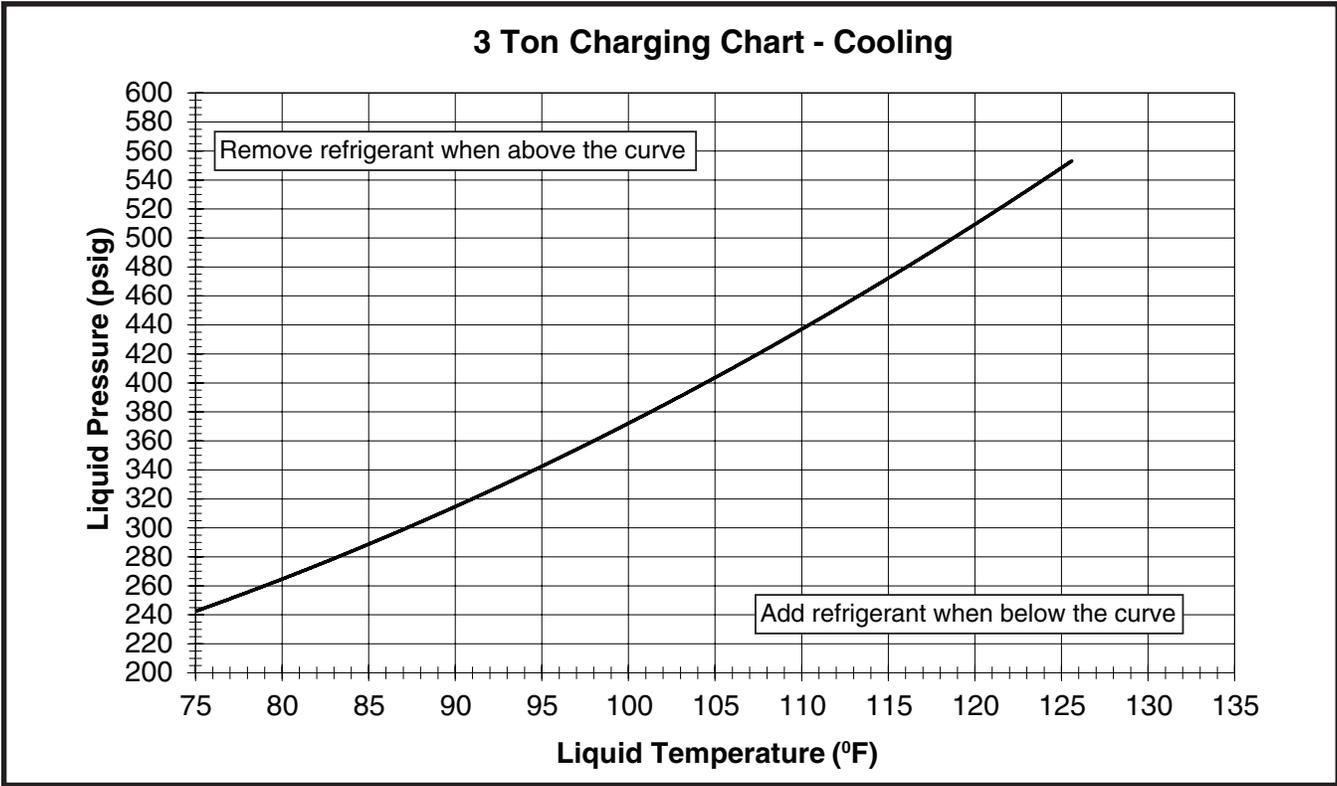
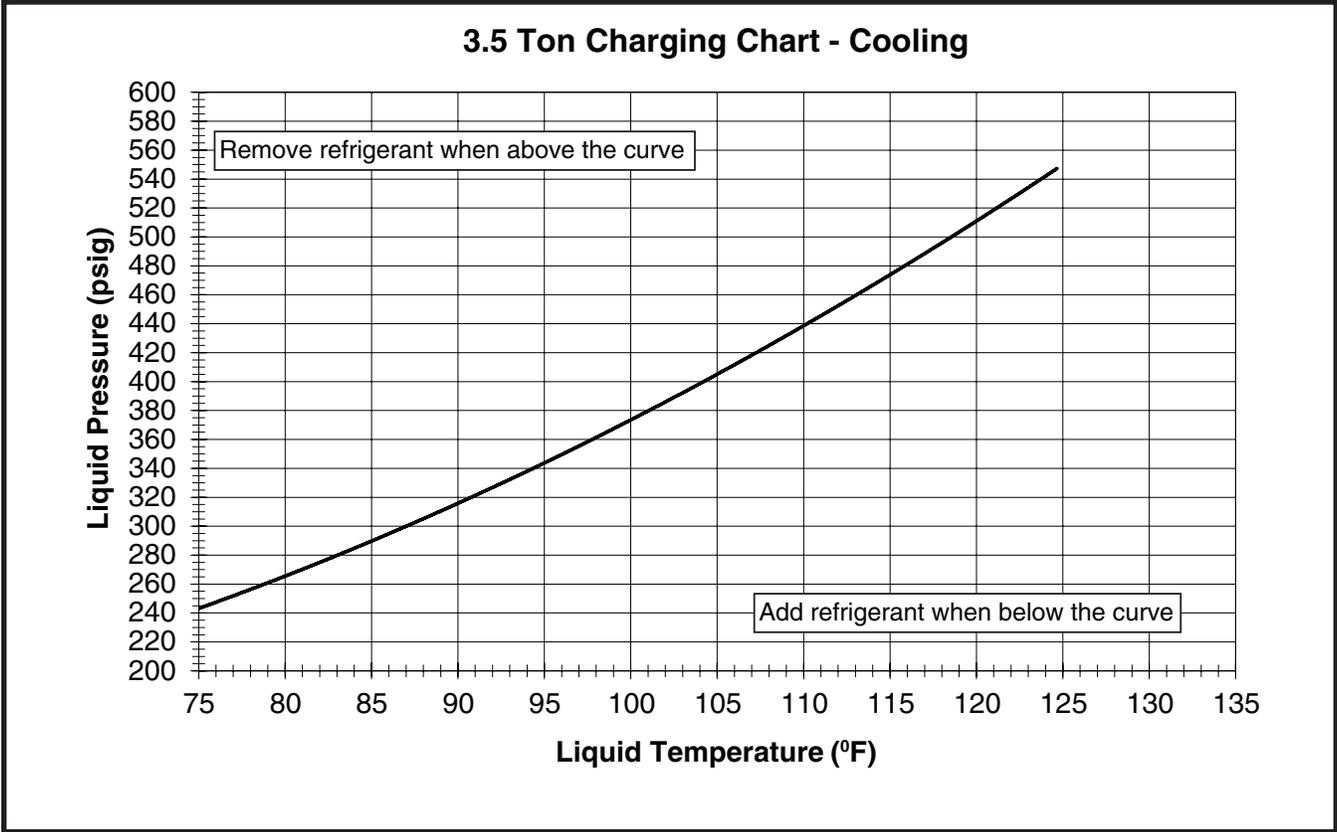
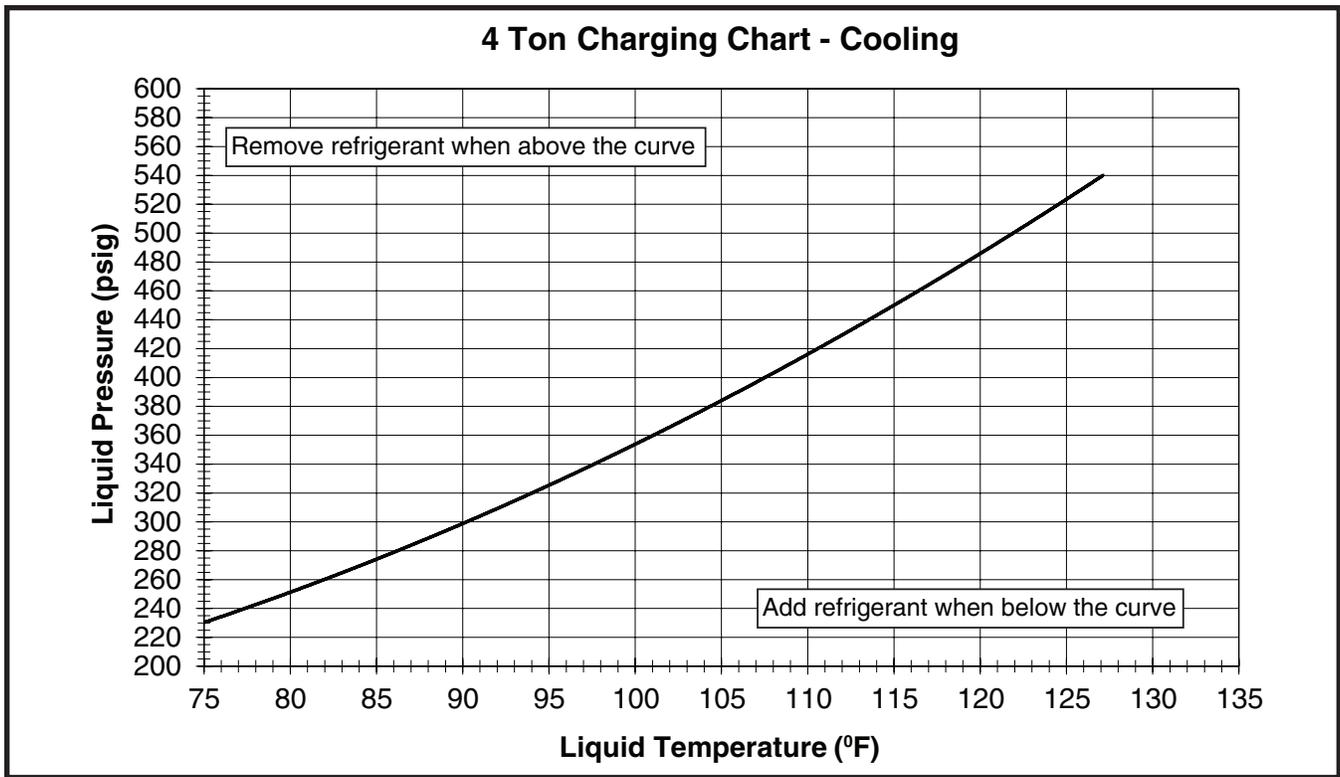
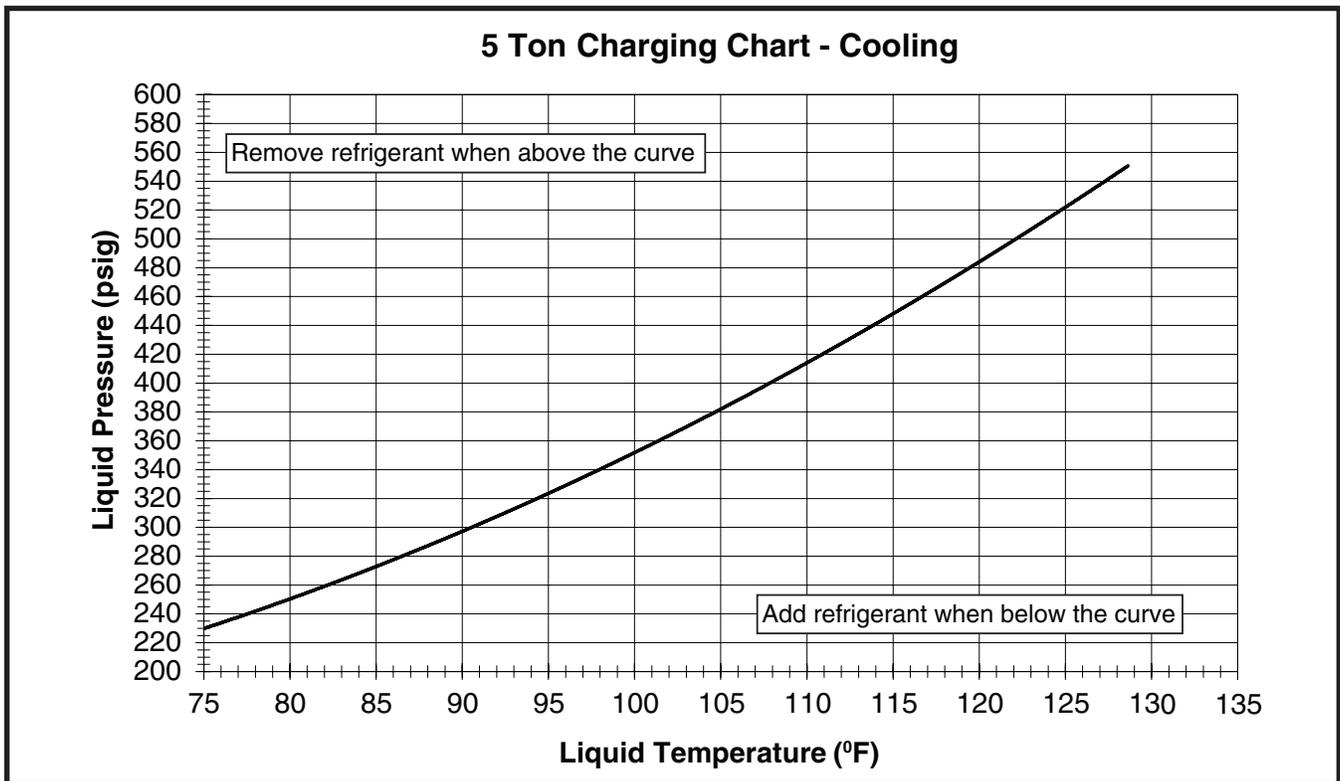

Figure 9. Charging Chart for 3 Ton Models
Figure 10. Charging Chart for 3.5 Ton Models
Figure 11. Charging Chart for 4 Ton Models
Figure 12. Charging Chart for 5 Ton Models
- Cooling mode charging charts and tables are applicable only to matched assemblies of this equipment and listed airflows for the indoor coil. Refer to the Quick Reference Data sheet for additional charging information. Outdoor units with non-AHRI listed indoor coils are not recommended and deviations from rated airflows or non-listed combinations may require modification to the expansion device and refrigerant charging procedures for proper and efficient system operation. For correct system charging, refer to Figure 6 \(page 10\), Figure 7 \(page 11\), Figure 8 \(page 11\), Figure 9 \(page 12\), Figure 10 \(page 12\), Figure 11 \(page 13\), & Figure 12 \(page 13\) and Table 5 \(page 14\), Table 6 \(page 14\), Table 7 \(page 15\), Table 8 \(page 15\), Table 9 \(page 16\), Table 10 \(page 16\), & Table 11 \(page 17\).
3. Determine the required liquid refrigerant pressure from Figure 6, Figure 7, Figure 8, Figure 9, Figure 10, Figure 11, & Figure 12.
- Charging charts are valid for a variety of indoor, return air conditions and are most influenced by the outdoor ambient temperature, outdoor fan operation and the unit operating voltage. Before using these charts, make sure the unit is in a stable operating mode. As shown in the charging charts: Figure 6, Figure 7 \(page 11\), Figure 8 \(page 11\), Figure 9 \(page 12\), Figure 10 \(page 12\), Figure 11 \(page 13\), & Figure 12 \(page 13\), the ideal system sub-cooling can vary over the range of operation. Reference the charts to determine the ideal amount of sub-cooling for a given liquid pressure. Units charged to other values will not perform at the rated unit efficiency (EER) or rated Coefficient of Performance (COP) in heating mode.